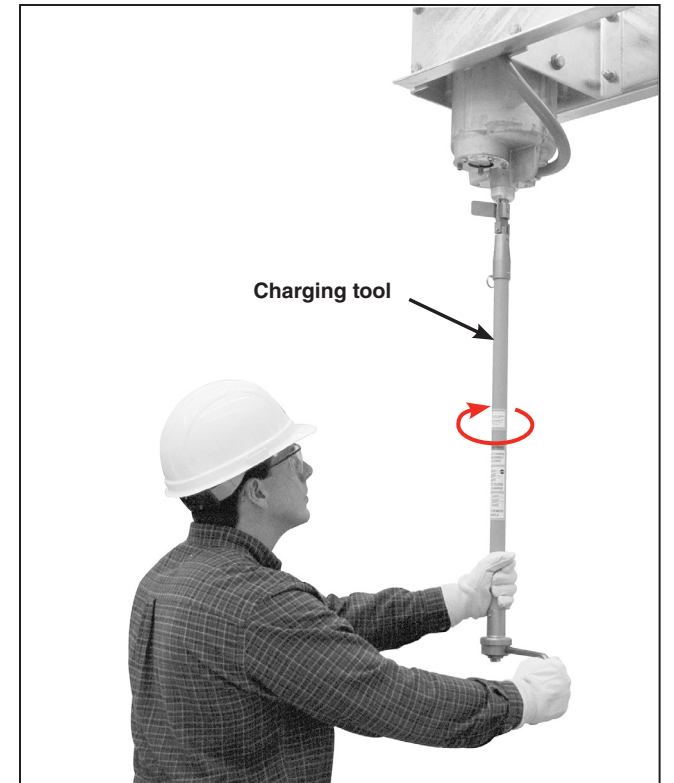

Figure 18. Rotate the tool handle clockwise until the internal stop is reached.
STEP 9. Rotate the charging tool handle *clockwise*, as indicated on the tool, to reset the pole-unit mechanism. See Figure 18. Approximately 40 revolutions are needed. Keep turning until the internal stop is reached, and then remove the charging tool.